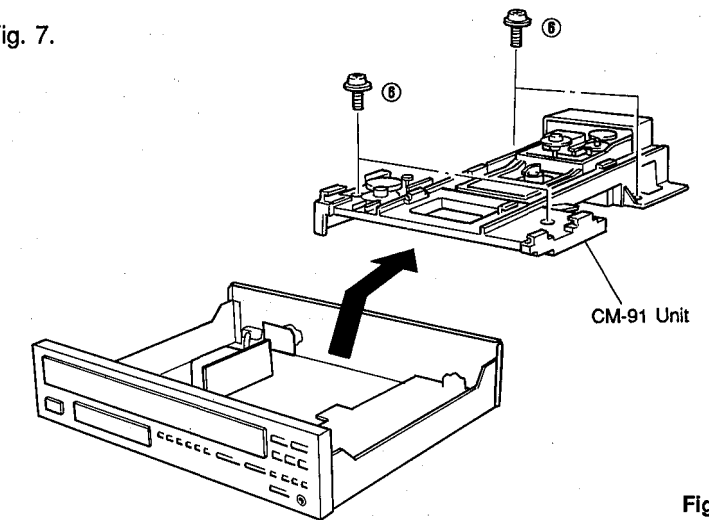

Fig. 7
a. Remove 4 screws (⑥) as shown in Fig. 7.
b. Take out the CM-91 Unit out slowly as shown in Fig. 7.